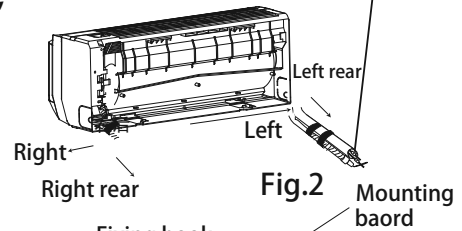

Fig.2
2. Take out the piping from body case, wrap the piping electric wire, water pipe with tape and pull them through the piping hole (As show in Fig.2)